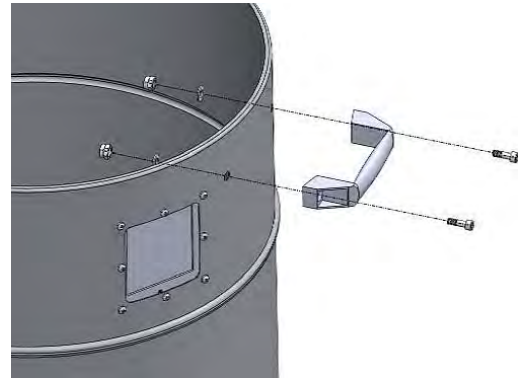

Fig. 11: Mounting the handle
Step 7: Secure the handle (Fig.11) to the container with hexagon bolts, washers and self-locking nuts.